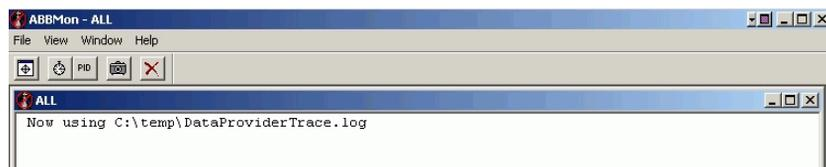

Figure 87. Trace Monitor Window
- c. Click **OK** when you are finished. This opens the Trace Monitor window, Figure 87. The window will be empty until you set up the monitor.